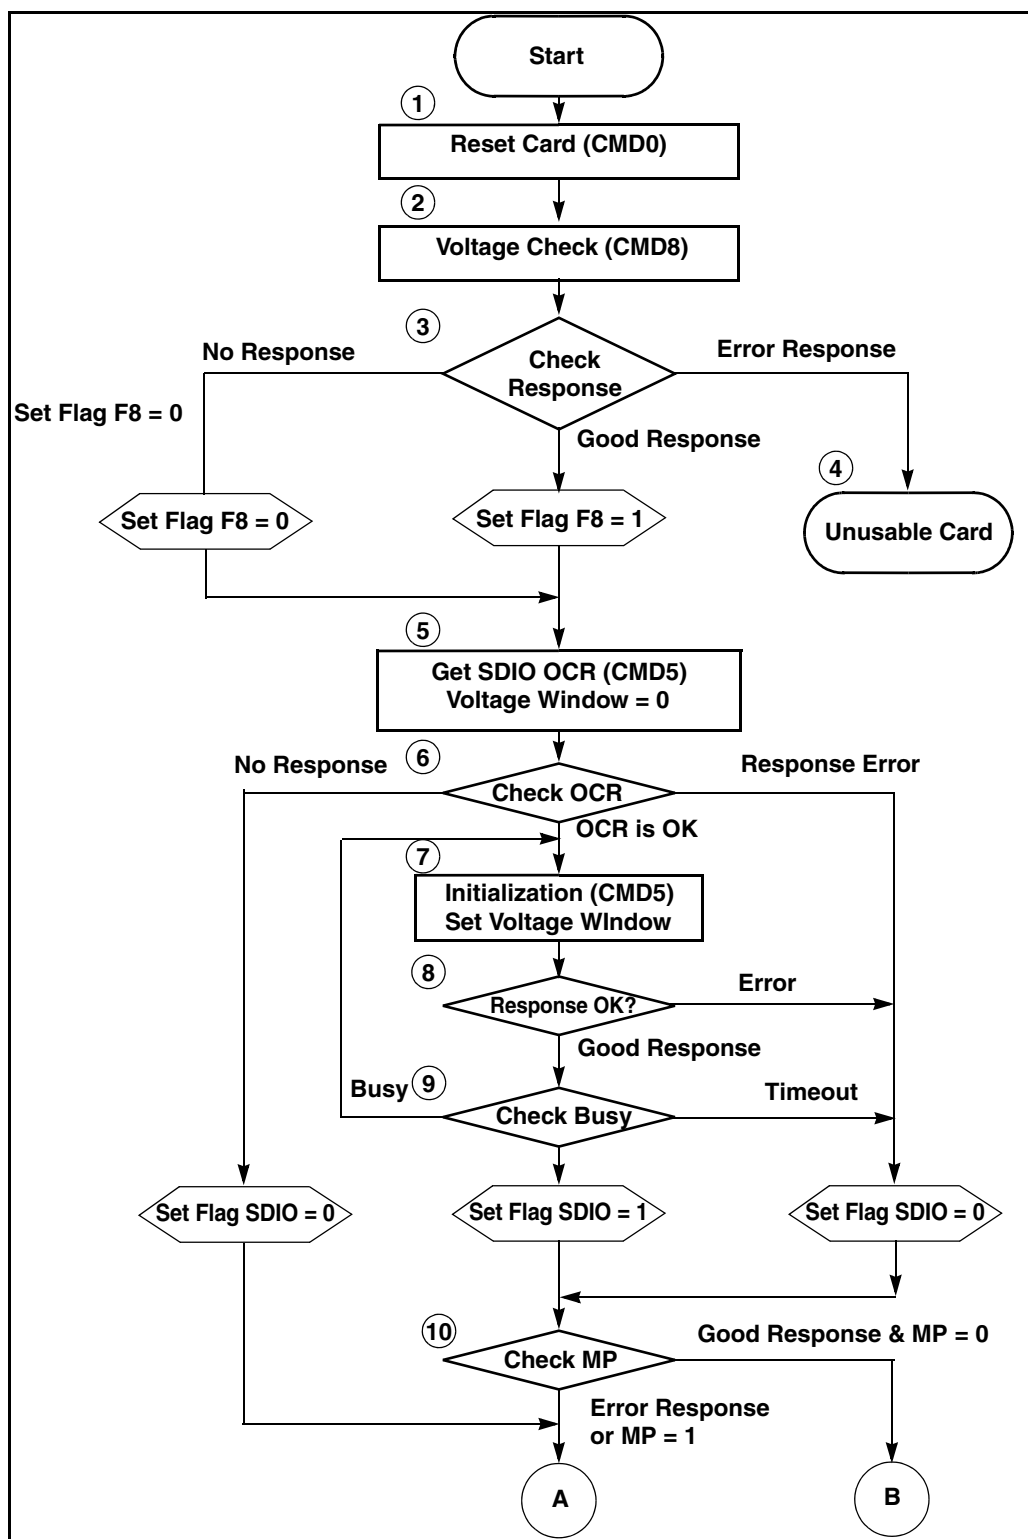
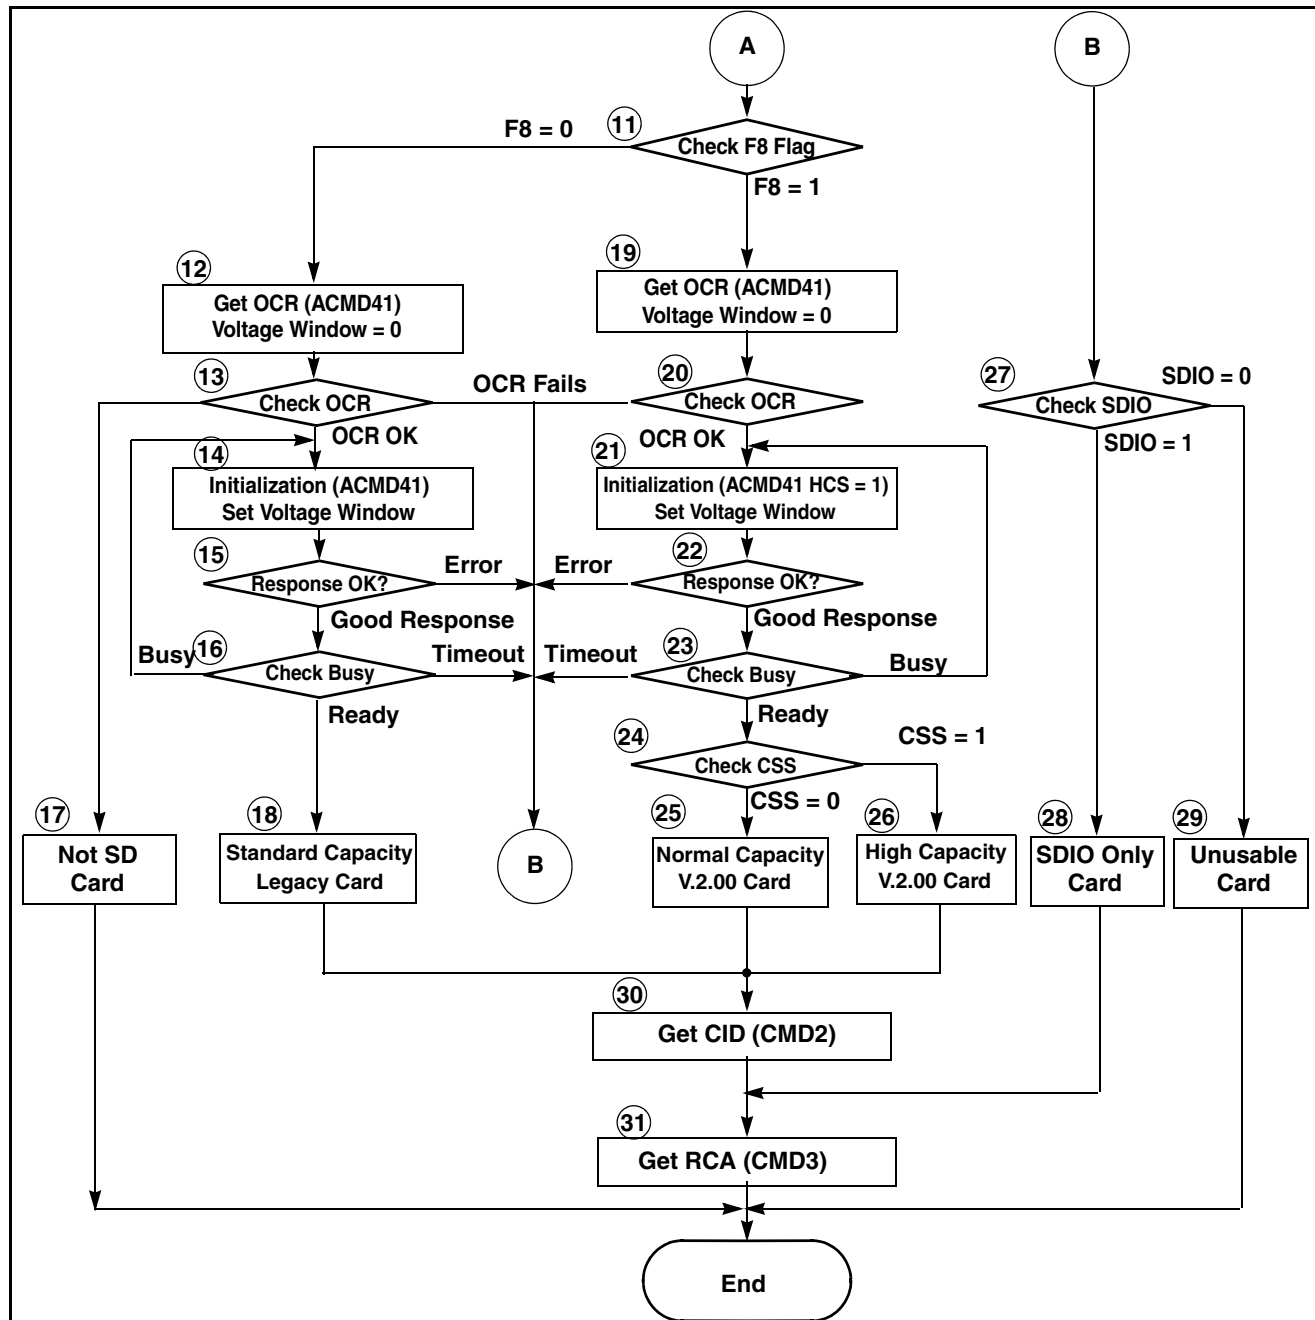

Figure 3. New Initialization Described in V2.0 Specification — Part 1 of 2
Figure 4. New Initialization Described in V.2.0 Specification — Part 2 of 2
Before any communication with the card is done, it is absolutely necessary that the Secure Digital host controller be initialized. The SD host controller in the MPC5121e conforms to the SD specification v.1.x but can be forced to act and work as an SDHC capable controller. This is done during the card identification and initialization process, as shown in Figure 3 and Figure 4.
4. Initialization is stopped if CMD8 fails. The host driver should retry steps 1 to 3 one more time. (This is not described in Figure 3).
10. Good response in this step means that all responses received at (6) and (8) are valid. When response is good, MP (memory present) flag in the response can be checked. If the response is valid and MP = 0, go to step 28. Otherwise, go to step 11.